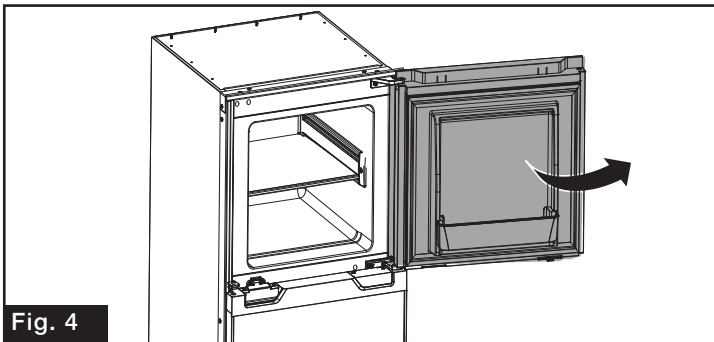

Fig. 4
1. Open the compartment door. (Fig. 4)